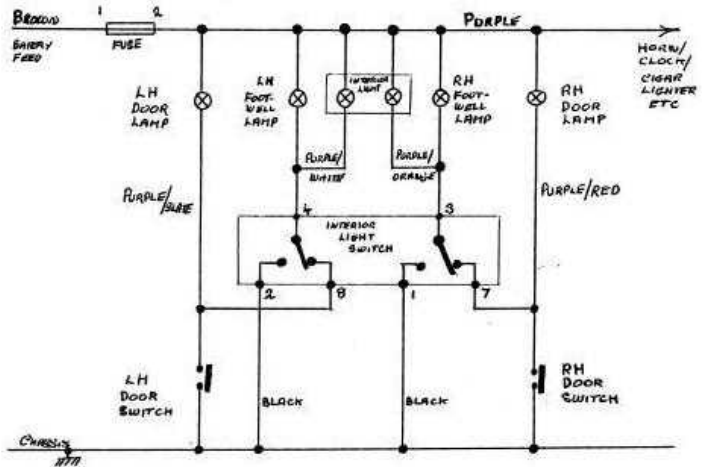

Figure 3: Later Type - applicable to Mk-2 cars with lamps in the centre of the T-Bar (with single terminal door switches). Schematic Layout
N.B. Figure 3 comes from the technical reprints of the SOC and although this goes a long way to de-mystify the later system, it contains one significant mistake (certainly compared to all of the late cars I have examined).
As can be seen from Figure 3, terminals 1 & 2 of the interior light switch are connected together and fed by one black wire which is (correctly) an earth.